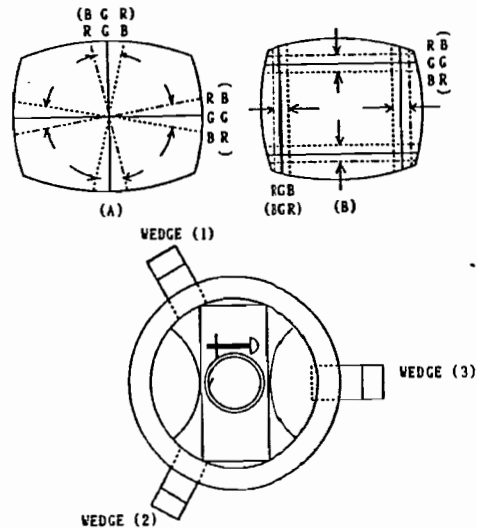

Figure 4 Dynamic Convergence Adjustment
3. Tilt the deflection yoke up or down, and insert tilt adjustment wedges (1) and (2) between the deflection yoke and the CRT until the mis-convergence illustrated in Figure 4 (A) has been corrected.
4. Tilt the deflection yoke right and left, and insert tilt adjustment wedge (3) between the deflection yoke and the CRT until the mis-convergence illustrated in Figure 4 (B) has been corrected.